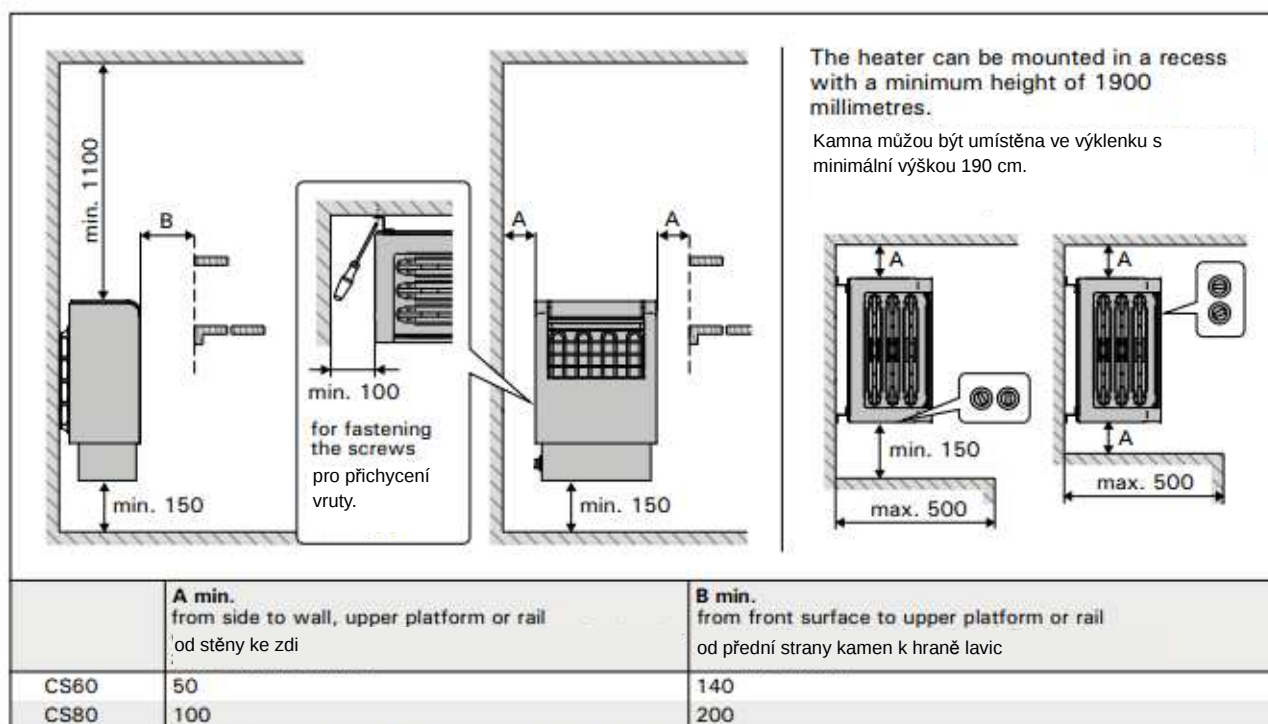

Figure 6. Safety distances (all dimensions in millimeters)
- Is the supply voltage suitable for the heater?• The location of the heater fulfils the minimum requirements concerning safety distances given in fig. 6 and table 2. It is absolutely necessary to install the heater according to these values. neglecting them causes a risk of fire. Only one electrical heater may be installed in the sauna room.